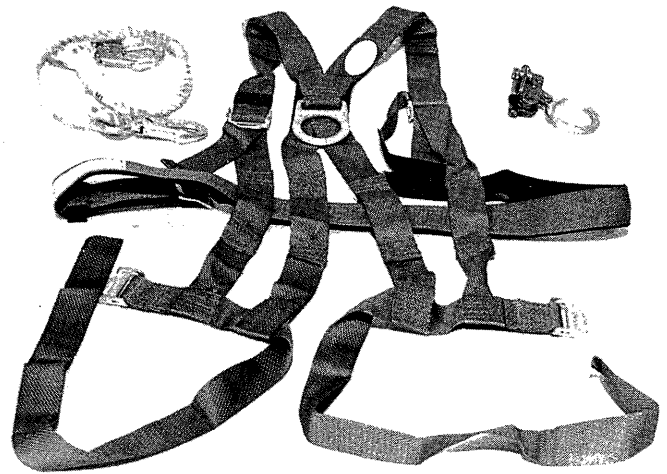

Figure 5.2
3. Inspect lanyard, safety belt, or harness attachment hardware to ensure that all items are in good condition and can be attached or removed without difficulty. Do not use webbed belts or lanyards with broken stitching. See Figure 5-2 for the type of operator safety equipment available from Sky Climber, Inc.